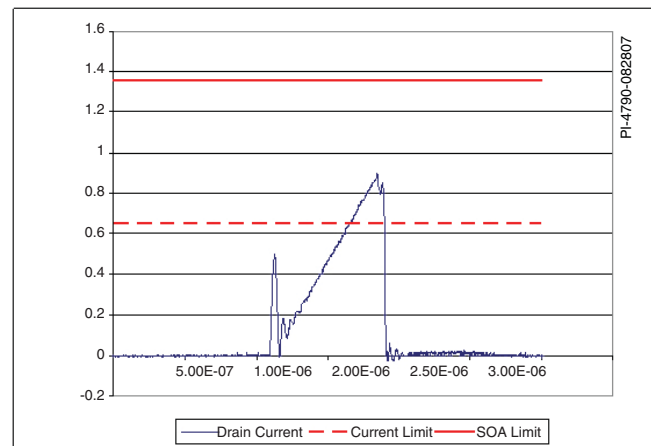

Figure 3. Peak Current Overshoots the Current Limit But is Within Limits Specified in the Data Sheet.
- Use a slow blocking diode D5 with a 100 Ω series resistor. Use only a glass-passivated (GP) diode type to ensure a reverse recovery time of 2 μs or less. If unavailable, a fast diode such as FR107 may be used instead. These diode selections recycle some of the clamp energy and improve efficiency at no load.
- Figure 3 shows the drain current measured at 265 VAC input and at full load. The peak drain current was measured as 900 mA. The datasheet absolute maximum current for the TNY280PN is 1.36 A, leaving sufficient safety margin.